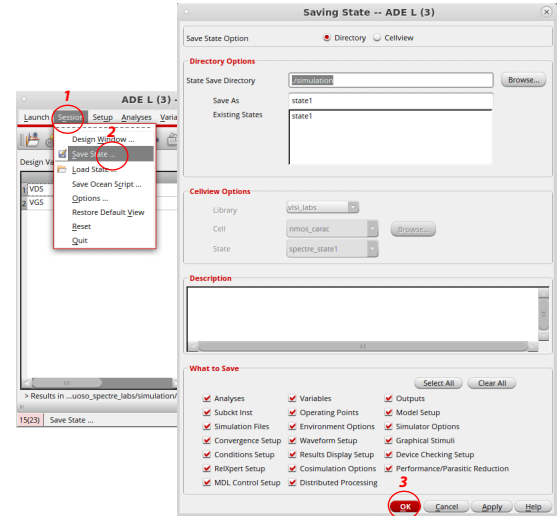

Figure 1.12: (a) *nmos* I-V curve; (b) Saving the ADE state.
5. Run your simulation by clicking on the green triangle button and observe the I-V curve (Fig. 1.12 (a)).
6. Save your ADE L configuration so you can reopen it later without having to re-specify the displayed output signals, the analysis setup, the parameters, *etc.* To do so: *Session -> Save State...* -> *OK*, as shown in Fig. 1.12 (b).